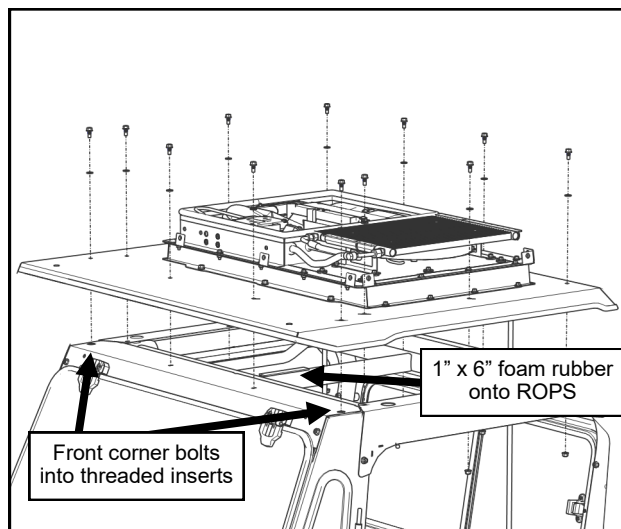

Fig. 5.1 (Install A/C Roof)
- 5.1** Apply the supplied 1" x 6" strip of foam rubber onto the top of the ROPS, on the center bar just behind the front cross bar. See Figure 5.1.
- 5.2** With an assistant, place the roof with A/C assembly onto the top of the cab and align to the holes in the cab. With a plastic washer on each bolt, insert 5/16 x 3/4" bolts through the roof into the threaded inserts in the A-pillars first, then through the rest of the holes in the roof with nuts underneath. See Figure 5.1.